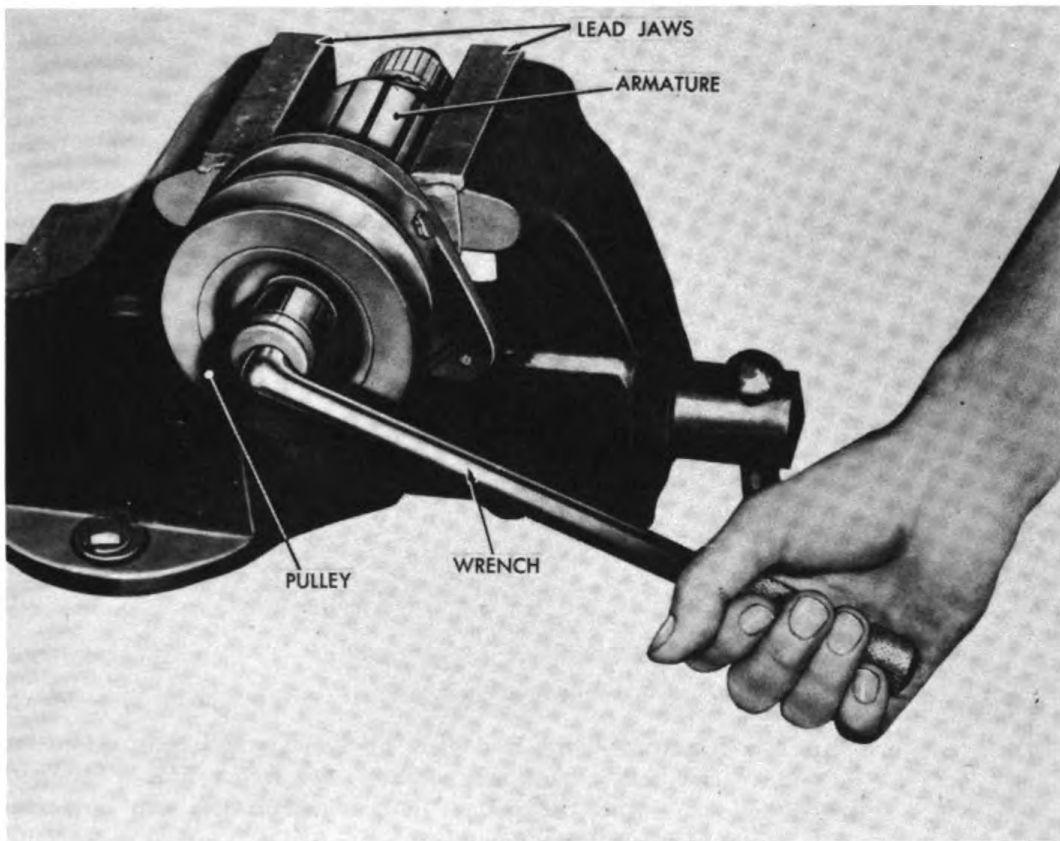
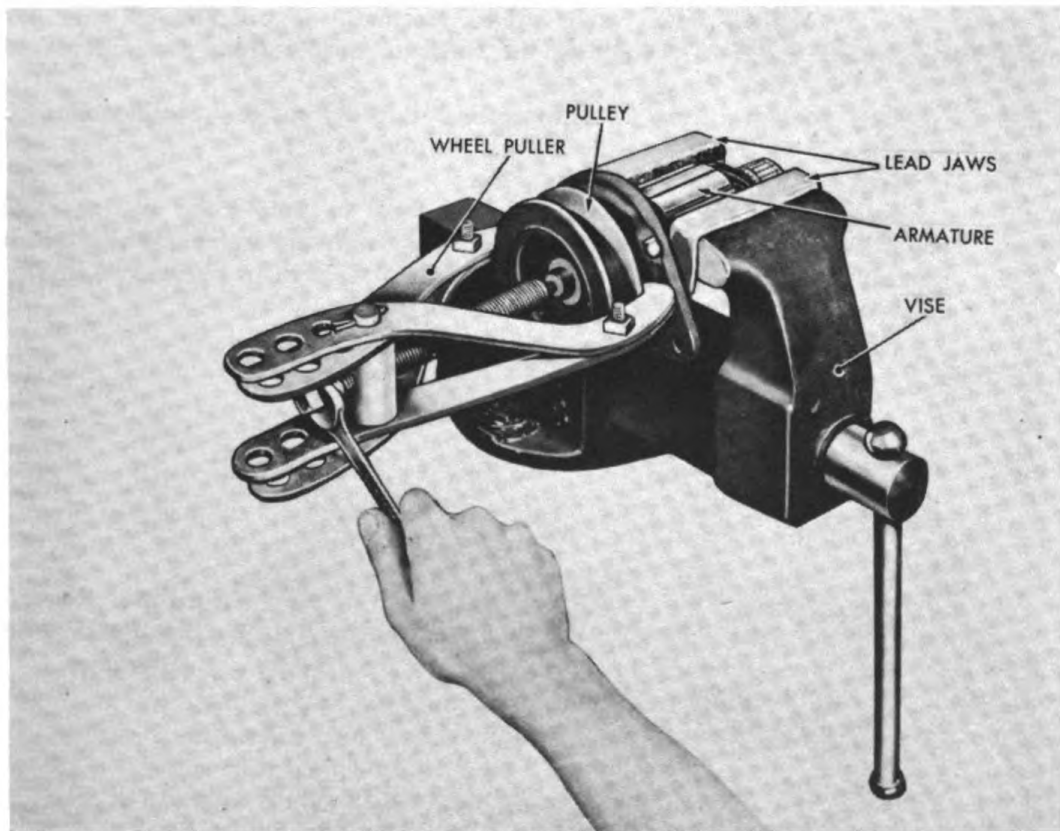

Figure 255. Removing Drive End Pulley Unit.
Figure 256. Removing Pulley with Puller.
- e. Place the armature in the lead jaws of the vise and use a $\frac{3}{4}$ " wrench to remove the pulley, nut, and washer. See figure 255. Then with a wheel puller, remove the pulley. The woodruff key can be removed with a pair of pliers. See figure 256.
- b. To install the pulley on the shaft, place the key in the keyway and place the pulley on the shaft with an arbor press. Then place the armature in the lead jaws of the vise. Install the washer and pulley nut. See figure 255.